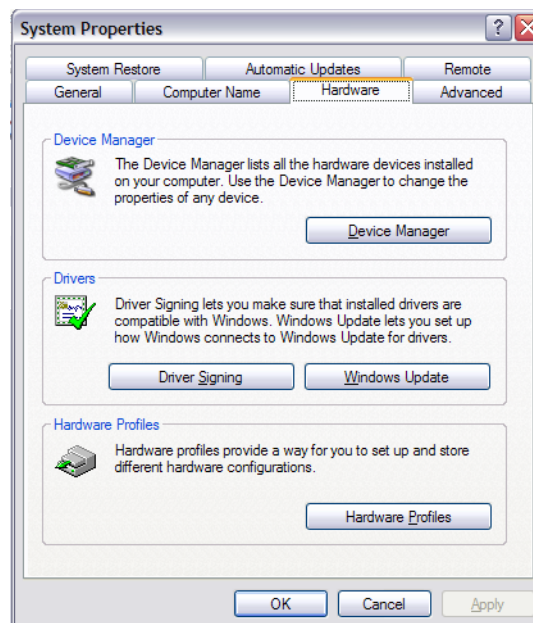

Figure 1-8 System Properties
3. Click the *System* icon and the *System Properties* dialog appears (Figure 1-8).